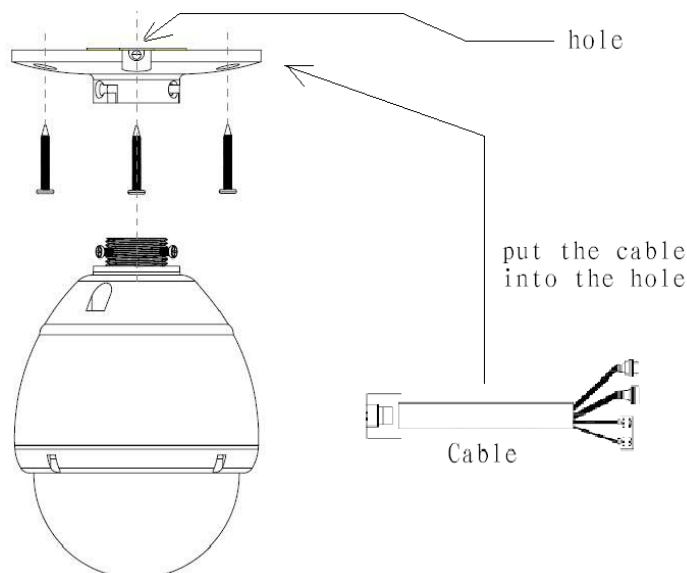

Fig.2
- (1) Cut three holes in the ceiling.
- (2) Put the cable through the Speeddome mounting base.(Fig.2)